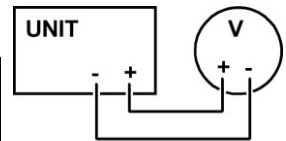

fig. 1
1. Connect a voltmeter to the output terminals (see fig.1).